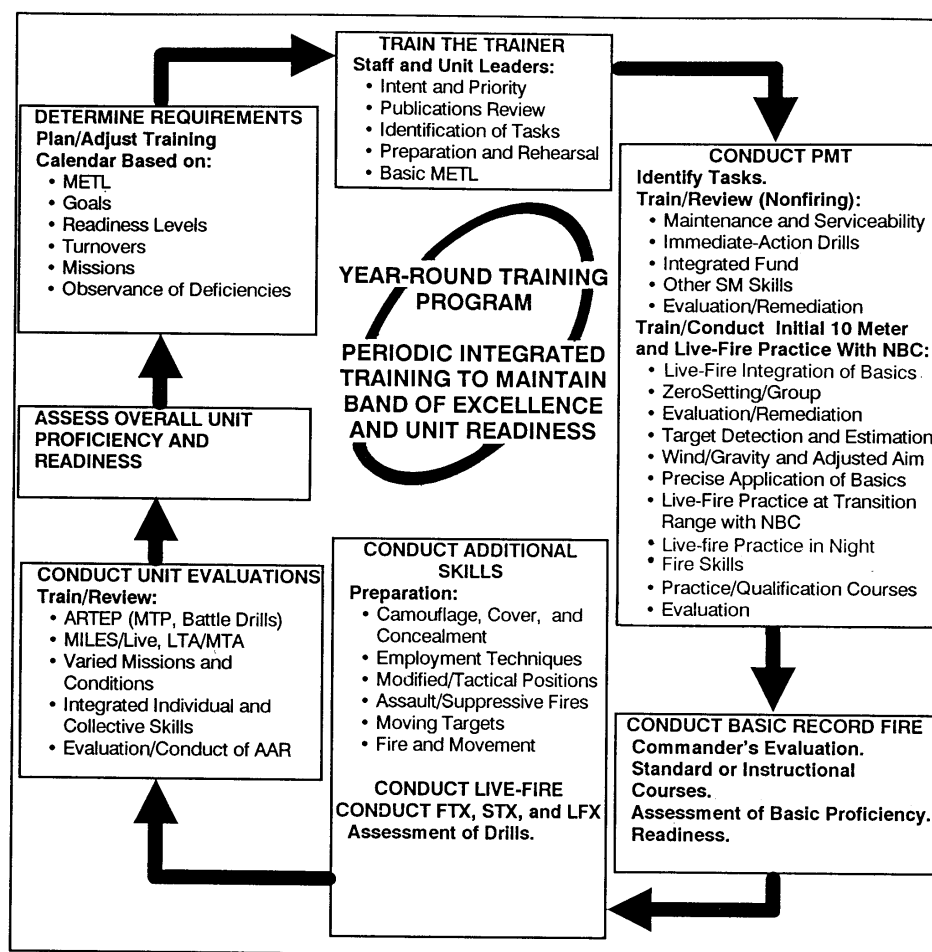

Figure 4-1. Unit marksmanship sustenance strategy.
c. The training strategy for machine gun marksmanship begins in the institutions and continues in the unit. Figure 4-1, illustrates an example of this overall process, which provides a concept of the flow of unit sustainment training. Combat arms IET provides field units with soldiers who are familiar with standards in basic marksmanship tasks. The soldiers graduating from these courses have been trained to maintain their machine guns and to hit a variety of targets. They have learned range determination, target detection, application of marksmanship fundamentals, and other skills needed to engage a target.